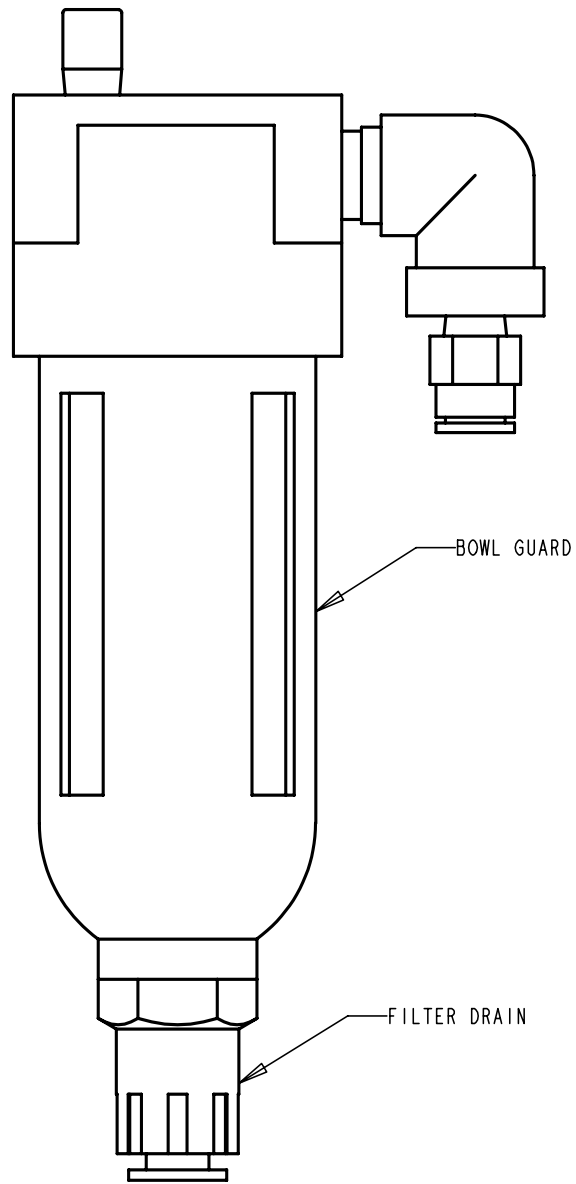

FIGURE 7-0
2. The MAIN AIR FILTER is equipped with a manual drain (Figure 7.0). If an excessive amount of liquid (over 1/2" / 12mm) is in the filter bowl, manual draining and cleaning is required to clean the filter bowl. Remove the filter bowl and clean with a clean cloth and soap. Wipe the bowl dry and re-install. Never clean the filter bowl with solvents. Solvents may weaken the bowl material resulting in bowl deterioration.